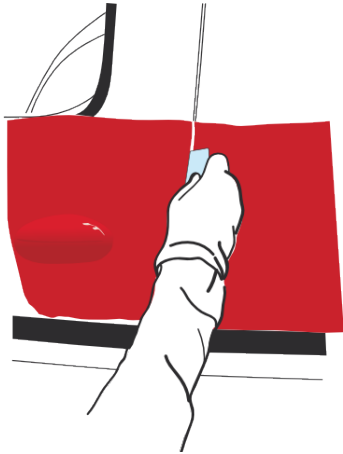

Figure 35
- ▶ To finish, run the squeegee over the cut. Incline the squeegee towards the thinner edge (FIG. 35). Firmly apply over the edges, round parts and neighbouring or opposed areas.